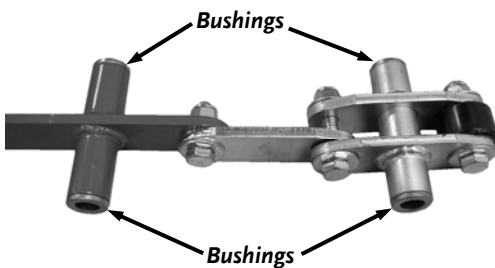

Figure 30
6. Replace the used Bushings with new ones (**Figure 30**). You may need the punch and Hammer to remove and Hammer to install some of the Bushings.